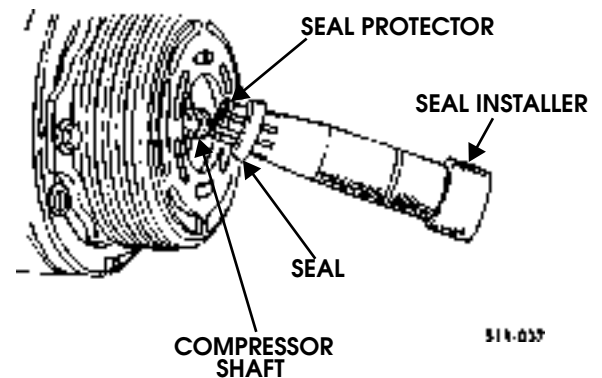

Figure 11-46: Seal Installer
- Dip new seal in clean PAG oil and assemble seal onto seal installer by turning handle clockwise. The stamped steel case side of the lip seal must be engaged with knurled tangs of installer so that the flared-out side of lip seal is facing and installed towards the compressor. Install seal protector in the seal lip and place over the compressor shaft, and push the seal in place with a rotary motion, or place the seal protector over end of compressor shaft, and slide the new seal onto the shaft with a rotary motion until it stops. Take care not to dislodge the O-ring. Be sure the seal makes good contact with the O-ring. Disengage the installer from the seal and remove the installer and the seal protector (Figure 11-46).